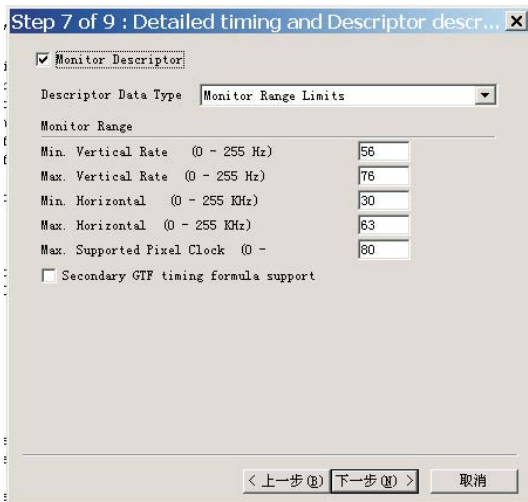

Fig. 19
6. Click Next , bring up Fig. 19.